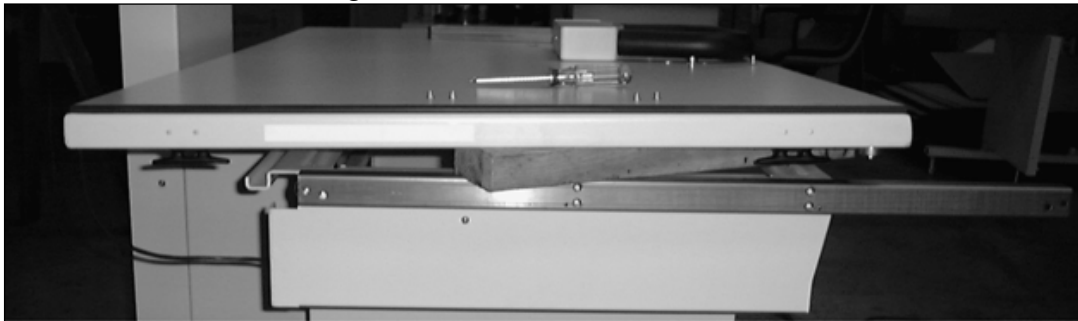

Figure 11: Shifted Bearing Track
9. Slide the bearing track forward as shown in Figure 11 below in order to expose the Tubestand bearing rail.